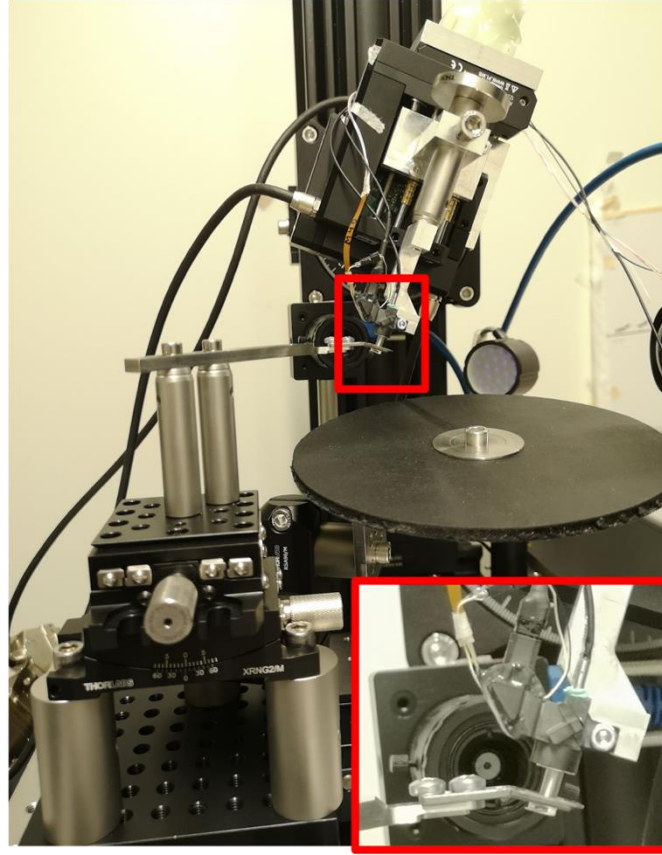

Fig.3 Example setups for scope mounting module with a bead sample mounted onto a headbar for D0309 objective and zoom-in of scope-to-beads alignment.
- Let it dry for 2h, and only then add a medium gel (index matching the brain) over the beads and fixate a cover slip (item 122) to protect and keep the beads in place.
- Place the prepared bead sample holder with M3 screws (See Fig.3)